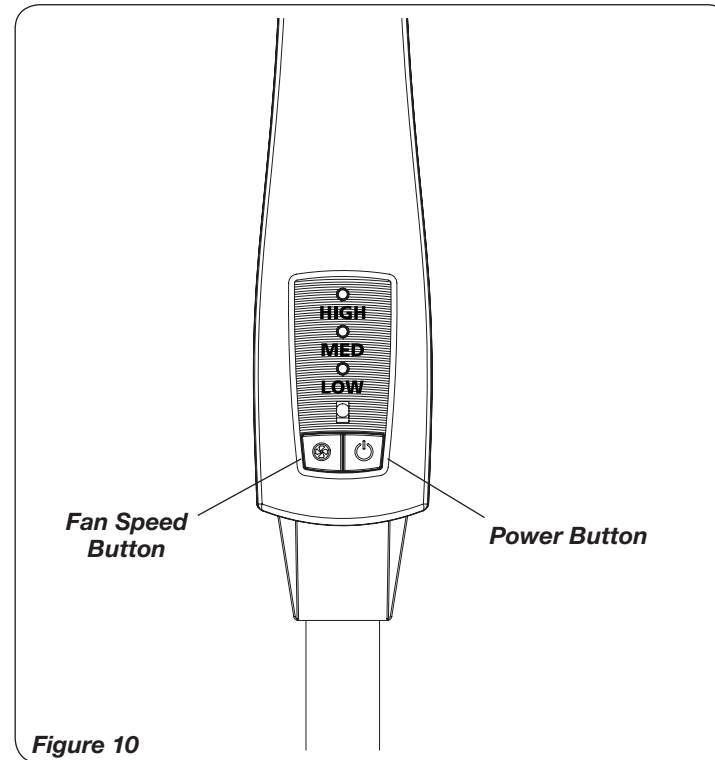
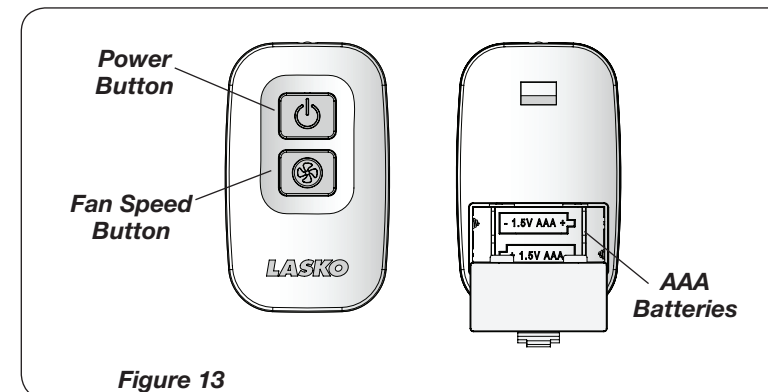

Figure 10
Figure 13
This Fan may be operated by the Manual Controls located on front of the unit (as shown in *Figure 10*) or by the Remote Control (shown in *Figure 13*).
1. Install batteries (not supplied) as shown in *Figure 13*. The battery is type “AAA”.